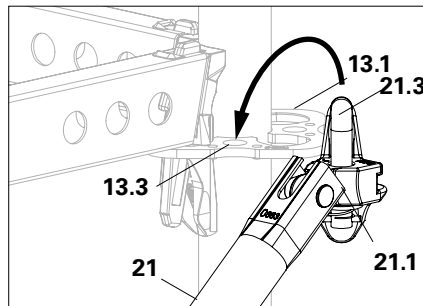

Fig. A4.02a
1. Push the brace head (21.1) with raised bolt (21.3) onto the upper rosette (13.1). (Fig. A4.02a)